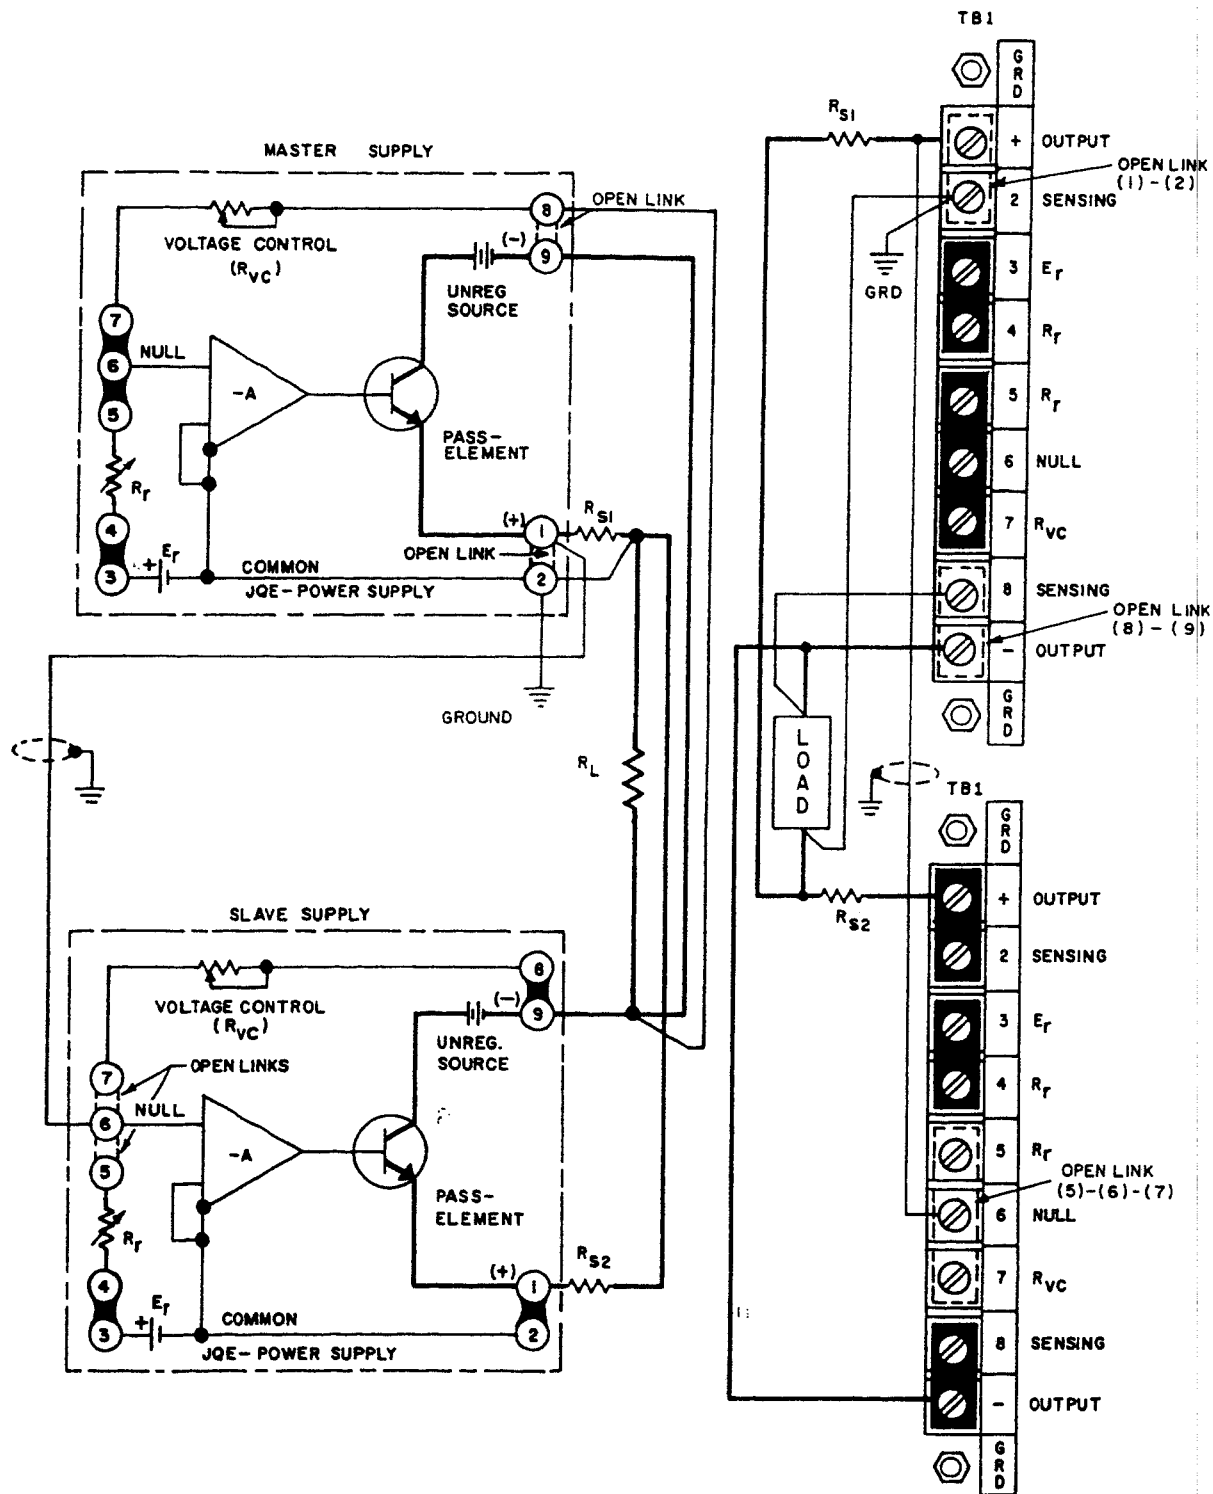

FIG. 3-15 MASTER-SLAVE PARALLEL CONNECTION OF JQE POWER SUPPLIES
**3-44 MASTER-SLAVE PARALLEL OPERATION:** Kepco Power Supplies may be paralleled if the output current from a single supply is not sufficient for the application at hand. With the parallel connection shown in FIG. 3-15, the total output current of the parallel supplies may be controlled from a single "Master" supply. To operate the parallel supplies in the "Master-Slave" connection, sensing resistors of equal value must be selected ( $R_{s1}$ ,  $R_{s2}$  in FIG. 3-15) such that the voltage drop across them is about 0.1 to 0.25 volts at the output current of interest. The **sum** of the voltage drops across the load wire with the sensing resistors in series should **never exceed 0.5 volts** at the maximum desired operating current. If sensing resistors of the proper value are not available, the resistance of the load wires may be sufficient to establish the necessary voltage drops. In this case, the load wires should be trimmed such that **equal voltage drops** are established in the load wire from the "Master" and that from the "Slave" supply. Load wires should in general be of as heavy a wire gauge as practicable. Twisting of the load wires, as well as of the error sensing leads from the "Master" supply (although **not** shown in FIG. 3-15) is recommended.
- Connect supplies as shown in FIG. 3-15, keeping load and error sensing leads as short as possible. Use shielded wire for the connection from terminal (2) of the "Master" to terminal (6) of the "Slave" unit.